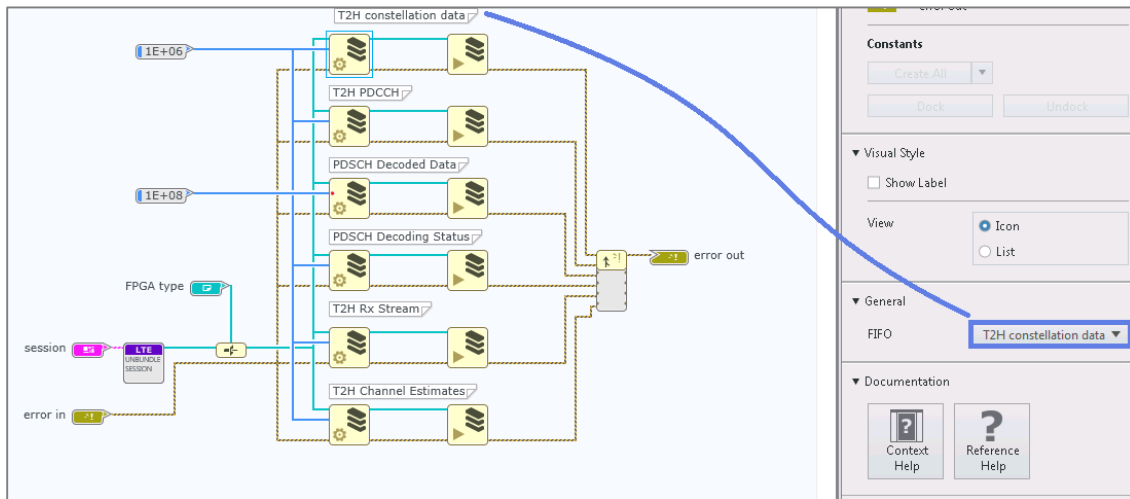

Figure 40 – “LTE DL RX FIFO Initialization.gvi” (after adding FIFO name comments)
2. **(Recommended)** Add comments above the affected nodes that note the currently configured resource name as shown in Figure 40.